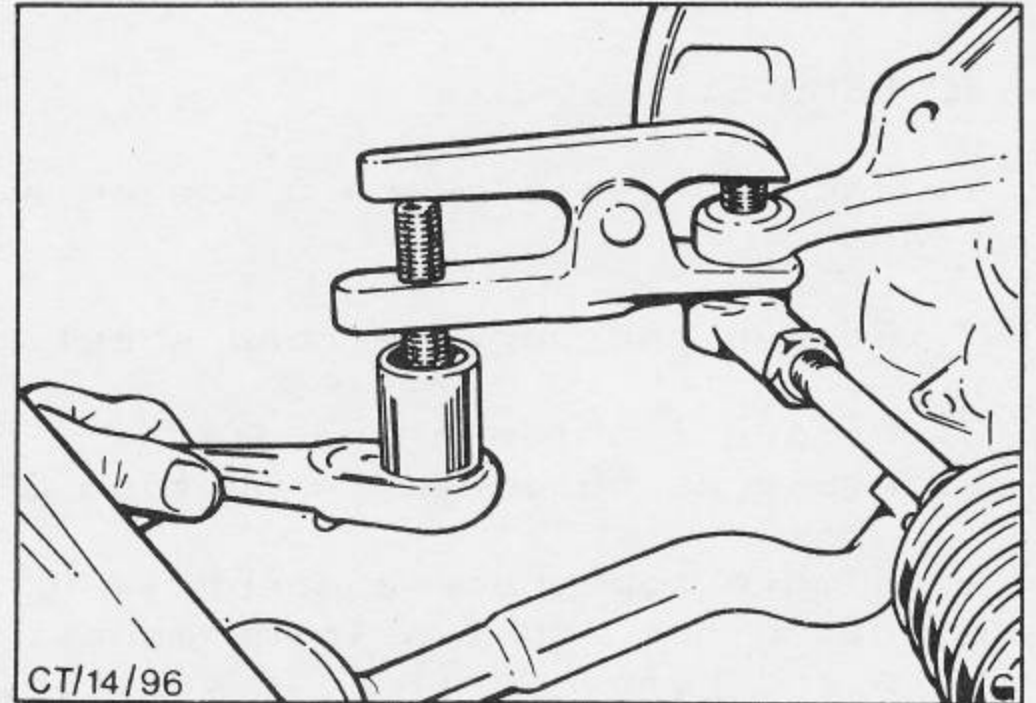

Fig.13 . Ball joint separator Tool No. 13 006.
6. Remove split pin & nut and disconnect the track rod end at the steering arm using a ball joint separator. Fig.13